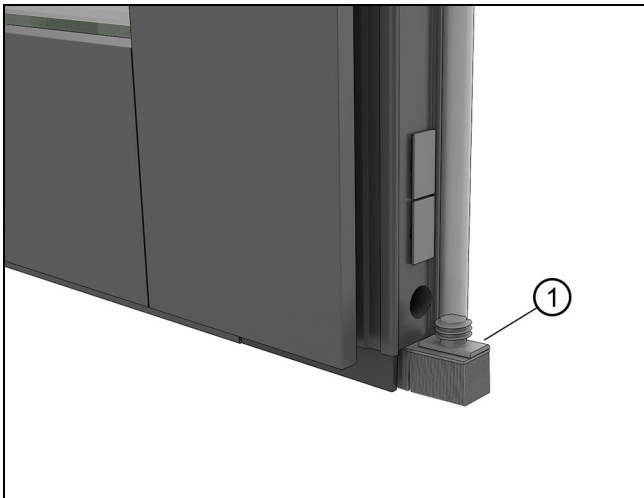

Figure 91
4. On inactive panels meeting stile side, pry the lower plug and dust cover down to reveal the adjustment hole. See Figure 91.